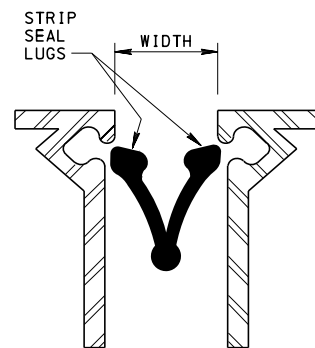

FIGURE 1
3. COLLAPSE THE STRIP SEAL INTO THE THE JOINT OPENING UNTIL THE LUG IS ALIGNED WITH THE FRAME RAIL CHANNEL. (SEE FIGURE 1)